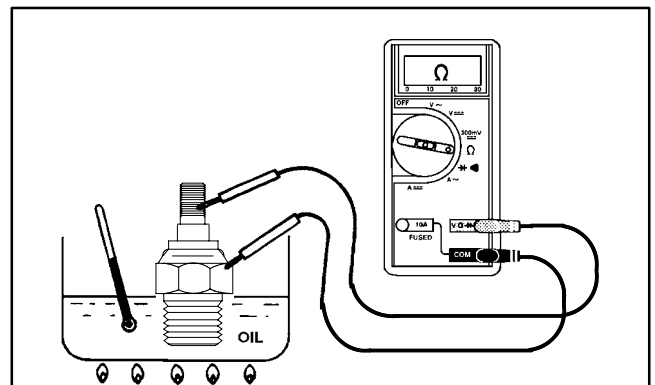

Figure 45
3. Put sender in a container of oil with a thermometer and slowly heat the oil (Fig. 45).